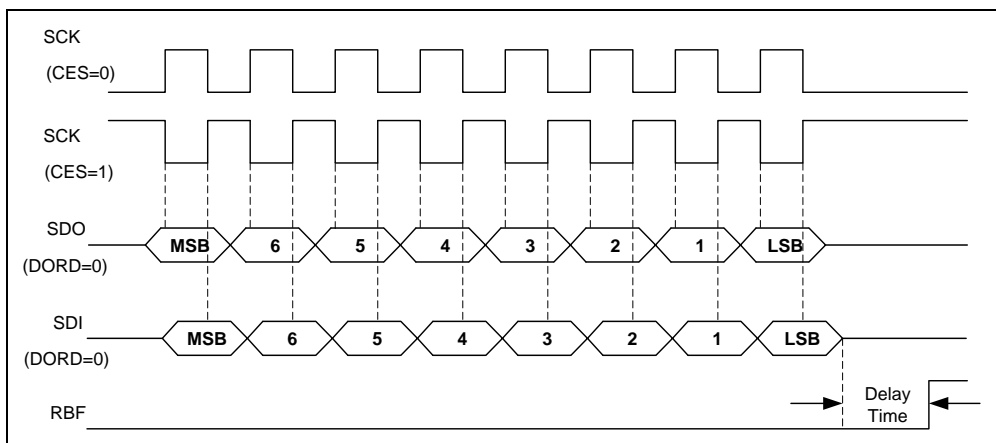
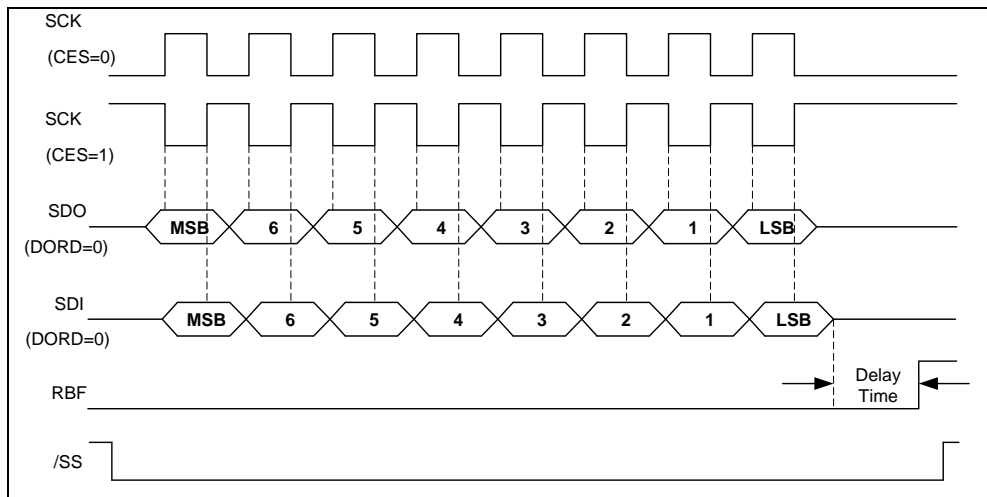

Figure 6-23 SPI Mode with /SS Disabled
Figure 6-24 SPI Mode with /SS Enabled
- Timing is shown in Figures 6-23 and 6-24.
The SCK edge is selected by programming bit CES. The waveform shown in Figure 6-23 is applicable regardless of whether the EM78P528N is in Master or Slave mode with /SS disabled. However, the waveform in Figure 6-24 can only be implemented in Slave mode with /SS enabled.